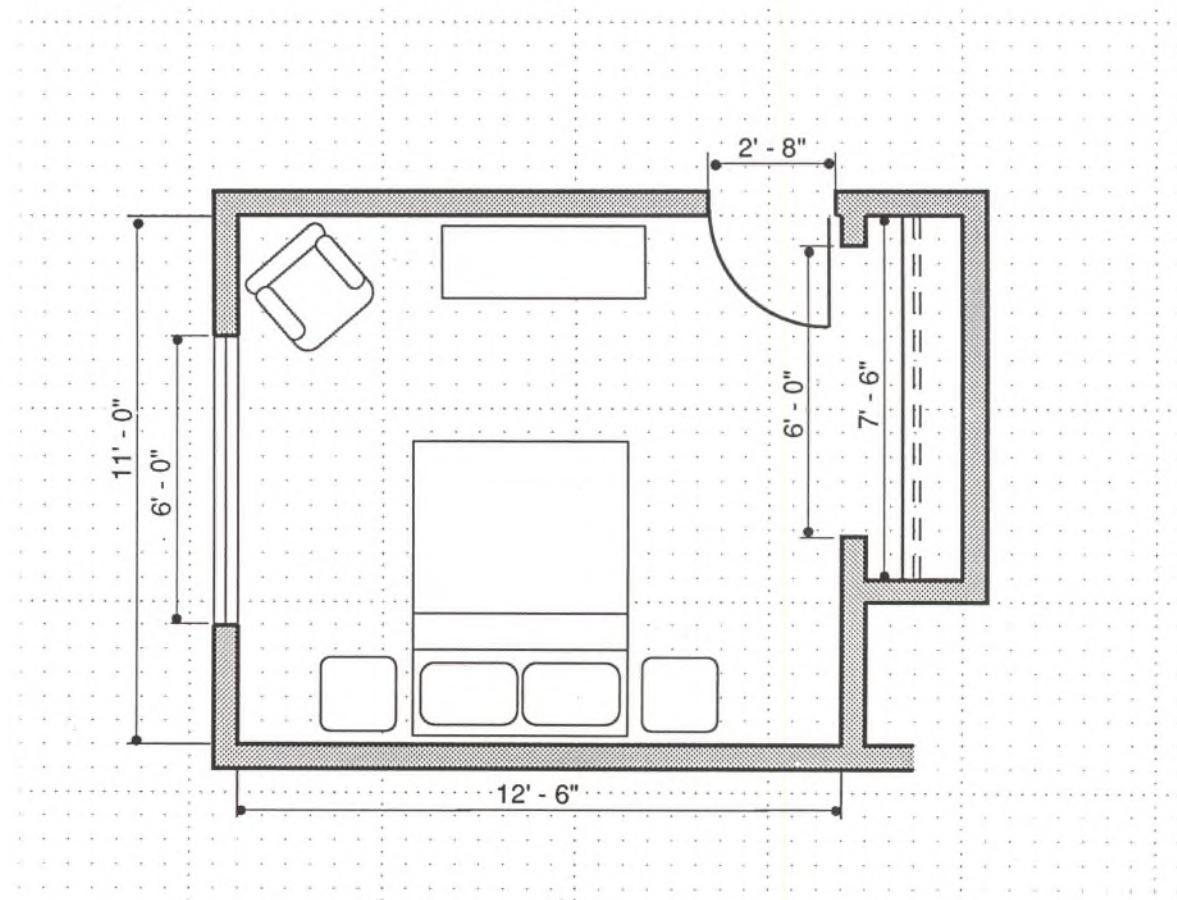

Fig. 6.2 A completed room drawing
9. Now you are ready to add furniture to the drawing. You will find, on the drawing guides, many different sizes, shapes and types of furniture. Measure each piece of furniture in the room you are drawing and make a note of its width, depth and height on your rough sketch. Choose the item of furniture from the drawing guides that is closest in size to the piece you want to draw. Trace it on the plan in the correct position. (See Fig. 6.2.) Keep in mind that the numbers on the drawing guides indicate inches.